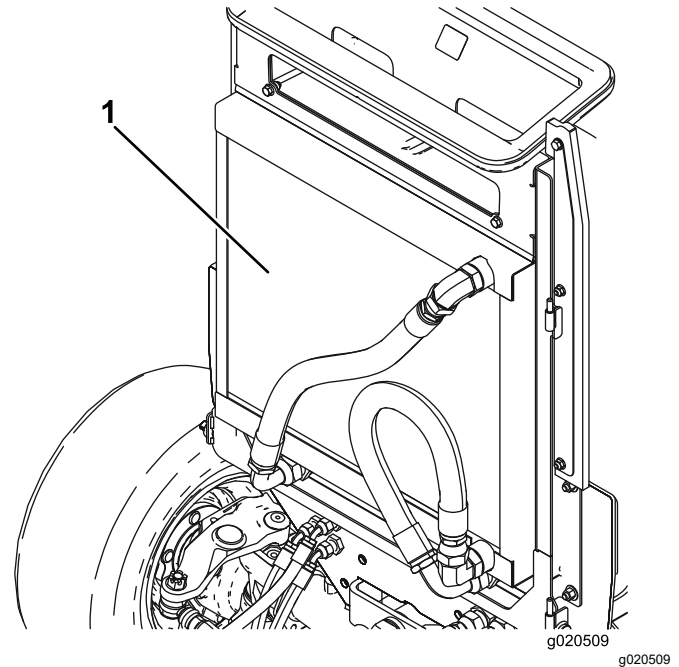

Figure 157
6. Clean both sides of the oil cooler/radiator area (Figure 157) thoroughly with compressed air. Start from the front and blow the debris out